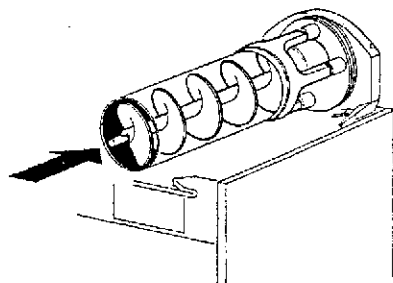

figure 15
5. Insert the auger into the evaporator taking care to accompany it to the end so as to prevent it from hitting against the rear wall (see figure 15)